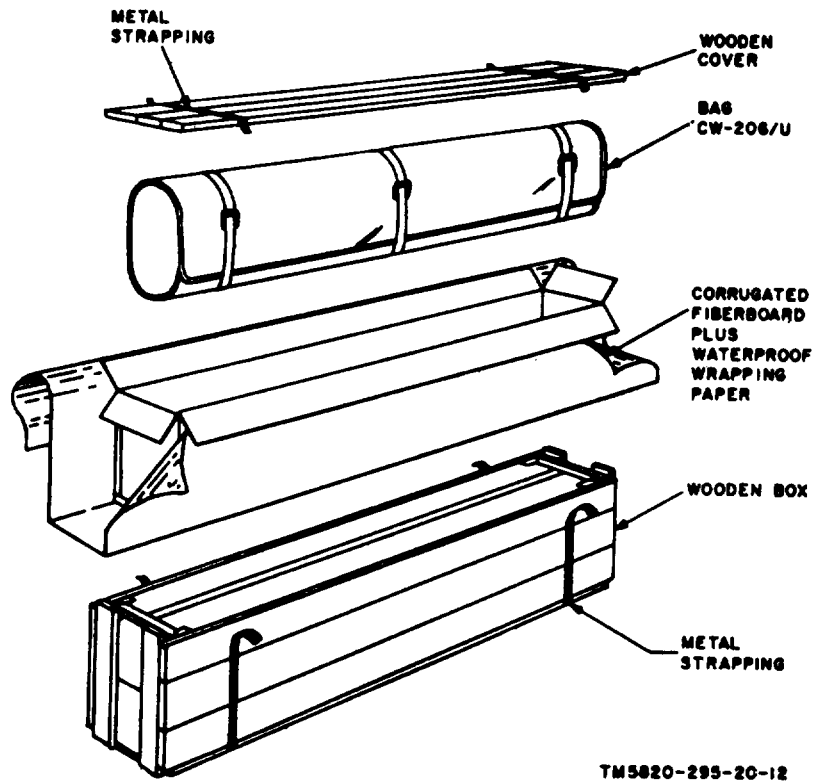

Figure 12. Bag, repackaging diagram.
- (2) *Bag CW-O/GR* (fig. 12). Place the minor components within the designated compartment of the bag. Fold the bag and secure it with its fastening devices. Wrap the bag with corrugated fiberboard and overwrap with waterproof wrapping paper. Secure the overlap with waterproof, pressure sensitive tape
- (4) *Radio Transmitter T-195/GRC-19* (fig. 12). Place the running spares for the transmitter within Case CY-1451/GRC-19. Close and secure the case lid with its fastening devices. Make sure that the three air vents on the transmitter are closed (yellow side facing out). To close these vents, loosen the catches on each side of the vents, pull out the vents, and reverse them, and then secure the catches. Individually wrap each of the items listed below with corrugated fiberboard and secure the wrap with pressure-sensitive tape. Place the wrapped items together and wrap with corrugated fiberboard and overwrap with waterproof wrapping paper. Secure the overwrap with waterproof, pressure-sensitive tape.
- (5) Mounting MT-9851/GRC-19. No packaging required.